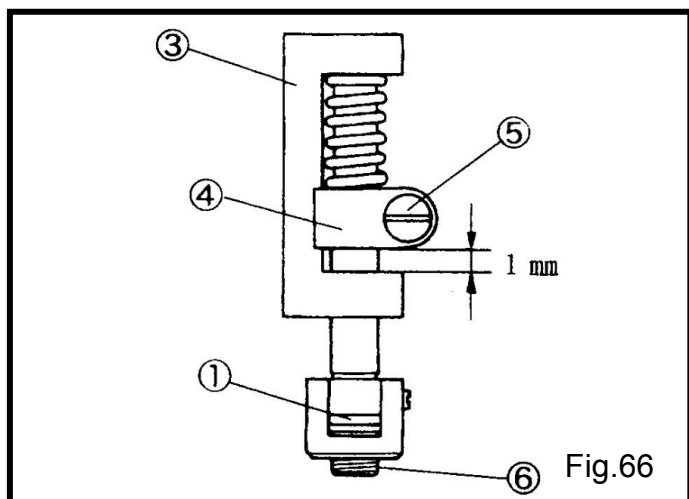

Fig.66
- (2) 刀座 (3) 和壓力彈簧軸環 (4) 之間的標準間隙為 1.0mm。(Fig.66)
- (3) 鬆開螺絲 (5) 和移動軸環 (4) 調整壓力。
- 增加壓力往上移動彈簧軸環 (4)。
- 減少壓力往下移動彈簧軸環 (4)。
- (2) The standard clearance between the bearing of the knife holder shank support (3) and the knife holder guide collar (4) is 1.0 mm. (Fig.66)
- (3) Loosen the screw (5) and move the knife holder guide collar (4) to adjust the pressure.
- To increase the pressure, move the collar (4) upward.
- To decrease the pressure, move the collar (4) downward.